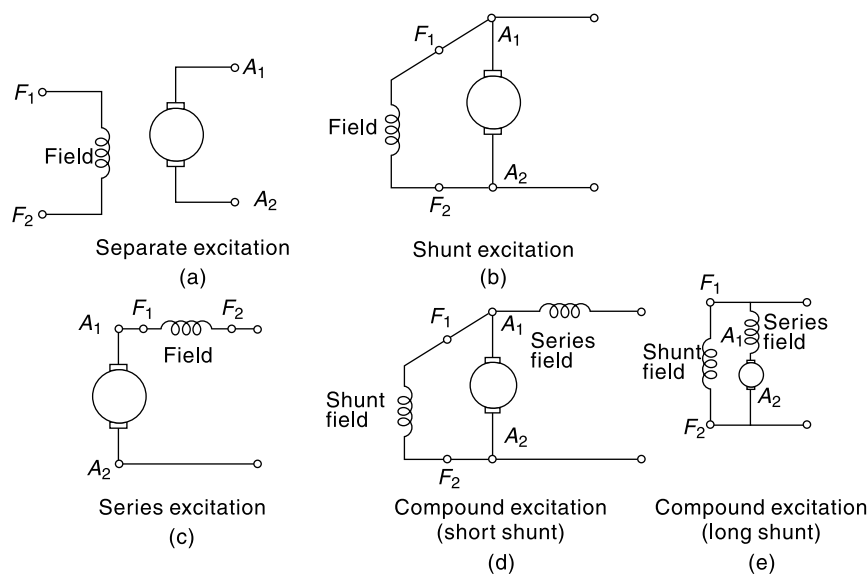

Fig. 2.3 Different excitations
The separately excited field winding consists of several hundred turns of fine wire and is connected to a separate or external dc source as shown in Fig. 2.3(a). The voltage of the external dc source has no relation with the armature voltage, i.e field winding energised from a separate source can be designed for any suitable voltage.
- (a) **Shunt Excitation** [Fig. 2.3 (b)]. Here field excitation is obtained from the armature voltage. The shunt field excitation ampere turns (AT) is obtained by having a large number of field turns with a small field current. For a generator, shunt excitation is a type of self-excitation when the field winding resistance is high but field exciting current is low.
- (b) **Series Excitation** [Fig. 2.3 (c)]; The field is wound with a few turns of wire (of low resistance) and is excited in series from the armature current. This excitation varies with the load (current).
- (c) **Compound Excitation** [Fig. 2.3 (d) and (e)]; Both shunt and series fields are employed in this method.
If the shunt field is connected in parallel with the armature alone the machine is called a *short shunt compound* machine [Fig. 2.3(d)] and if the shunt field is connected in parallel with both the armature and series field the machine is called a *long shunt compound* machine [Fig. 2.3(e)].